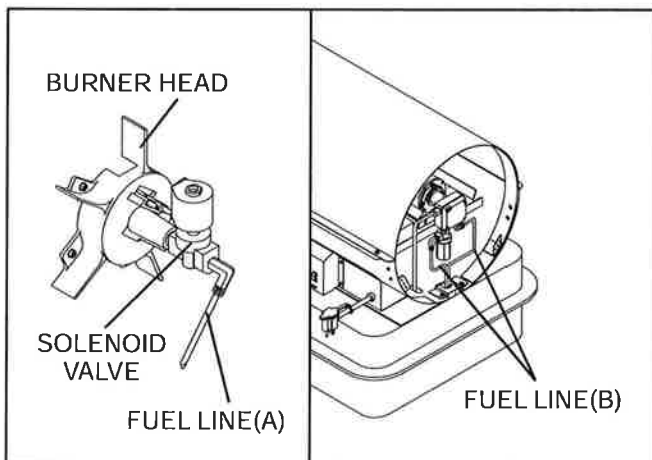

Figure 12. Tighten fuel line
- Use 1/4" wrench and tighten fuel lines (A) at solenoid valve and at pump. (See Figure 12)